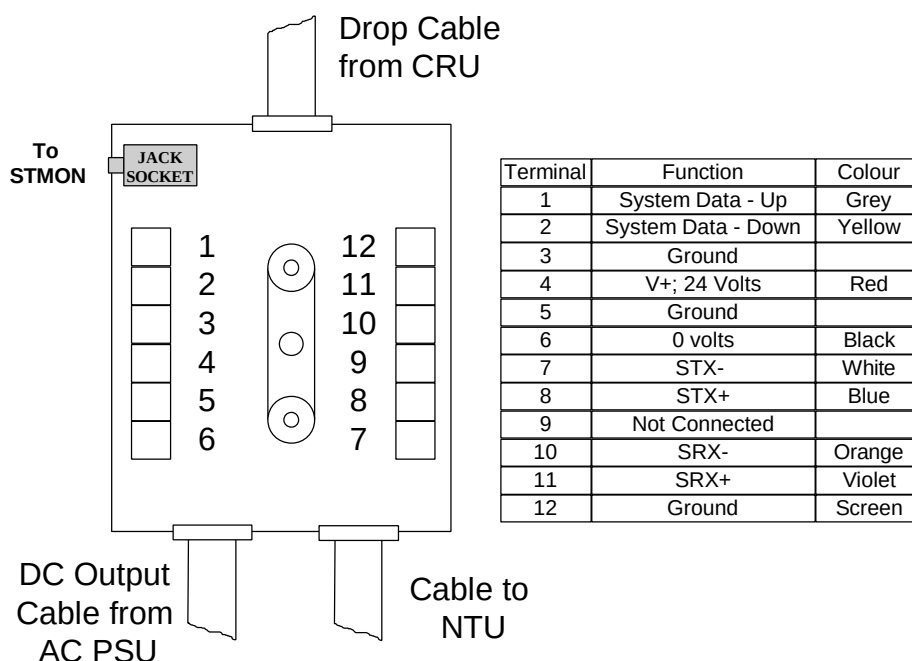

Figure 33. Junction Box Termination (Type 1 PSU)
- At the Junction Box terminate the wires of the drop cable as shown in Figure 33.